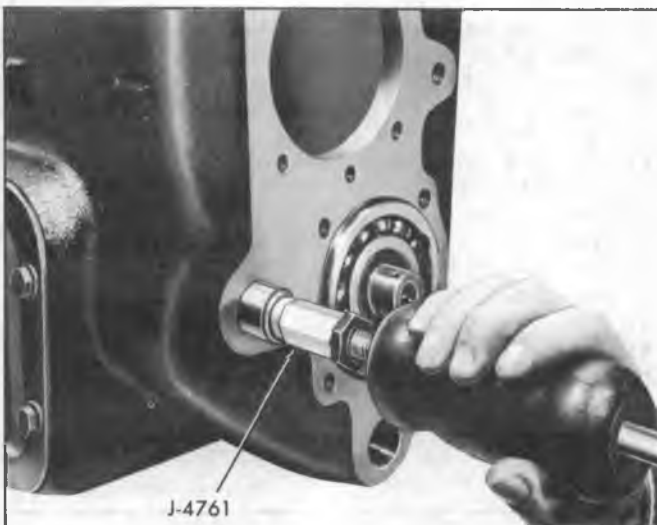

Fig. 3R--Remove Idler Gear Shaft
5. Slide mainshaft assembly to rear to bring rear bearing out of case. Remove snap ring, and using Tool J-1619, pull bearing from shaft as shown in Figure 3R.